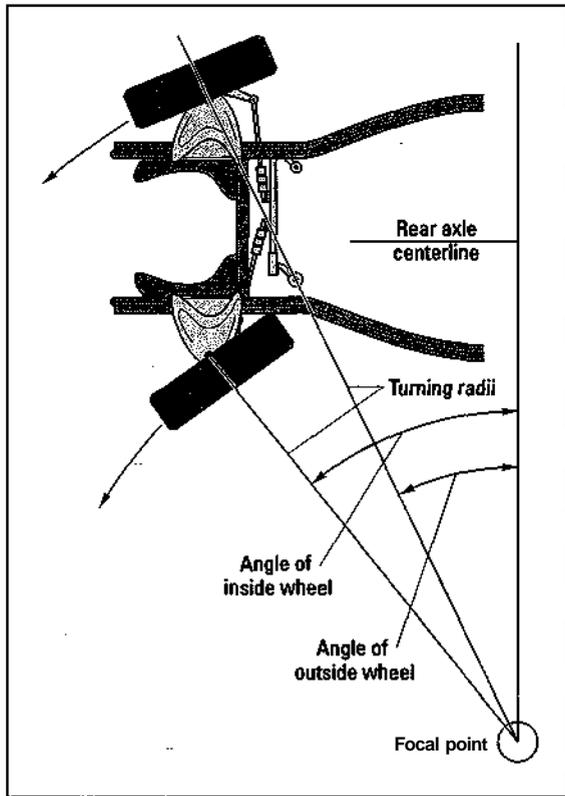

Figure 19-7:
* **Turning radius** is the relation of one front wheel to the other on turns. If you turn to the right, the right front tire needs to turn at a slightly greater angle than the left front tire. Your car's steering arms accommodate this feat. (See Figure 19-7.) If your tires "squeal" sharply on turns, one of your car's steering arms may be your problem.